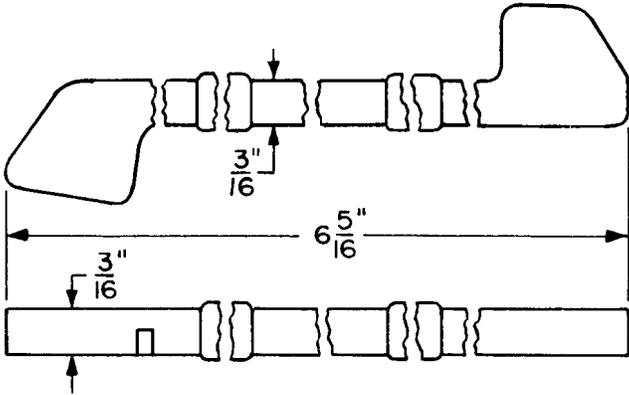

Fig. 11—545A Adjuster Tool
2.11 **545A:** The 545A tool (Fig. 11) is an adjuster used on 245-, 254-, 263-, and 264-type relays.